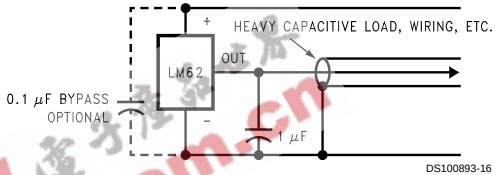

FIGURE 5. LM62 with Filter for Noisy Environment
0.1 μ F be added from +V_S to GND to bypass the power supply voltage, as shown in Figure 5. In a noisy environment it may be necessary to add a capacitor from the output to ground. A 1 μ F output capacitor with the 4.7 k Ω maximum output impedance will form a 34 Hz lowpass filter. Since the thermal time constant of the LM62 is much slower than the 30 ms time constant formed by the RC, the overall response time of the LM62 will not be significantly affected. For much larger capacitors this additional time lag will increase the overall response time of the LM62.